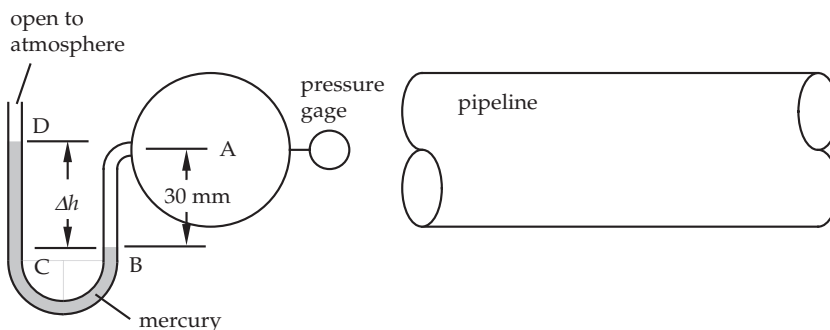

FIGURE P2.22.
22. Figure P2.22 shows a portion of a pipeline that conveys benzene. A gage attached to the line reads 150 kPa. It is desired to check the gage reading with a benzene-over-mercury U-tube manometer. Determine the expected reading  $\Delta h$  on the manometer.